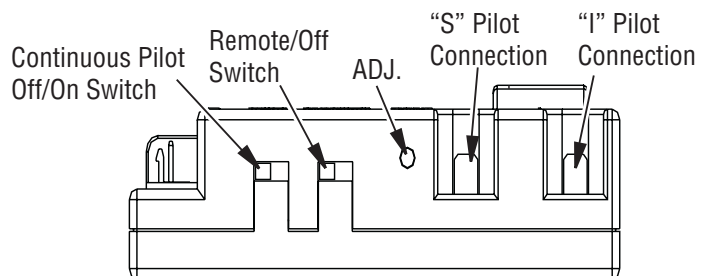

Figure 26 - Gas Module Right Side
1. There is a switch located on the right side of the module that reads CONTINUOUS PILOT ON/OFF. This switch selects the pilot's mode of operation (*Figure 26*).